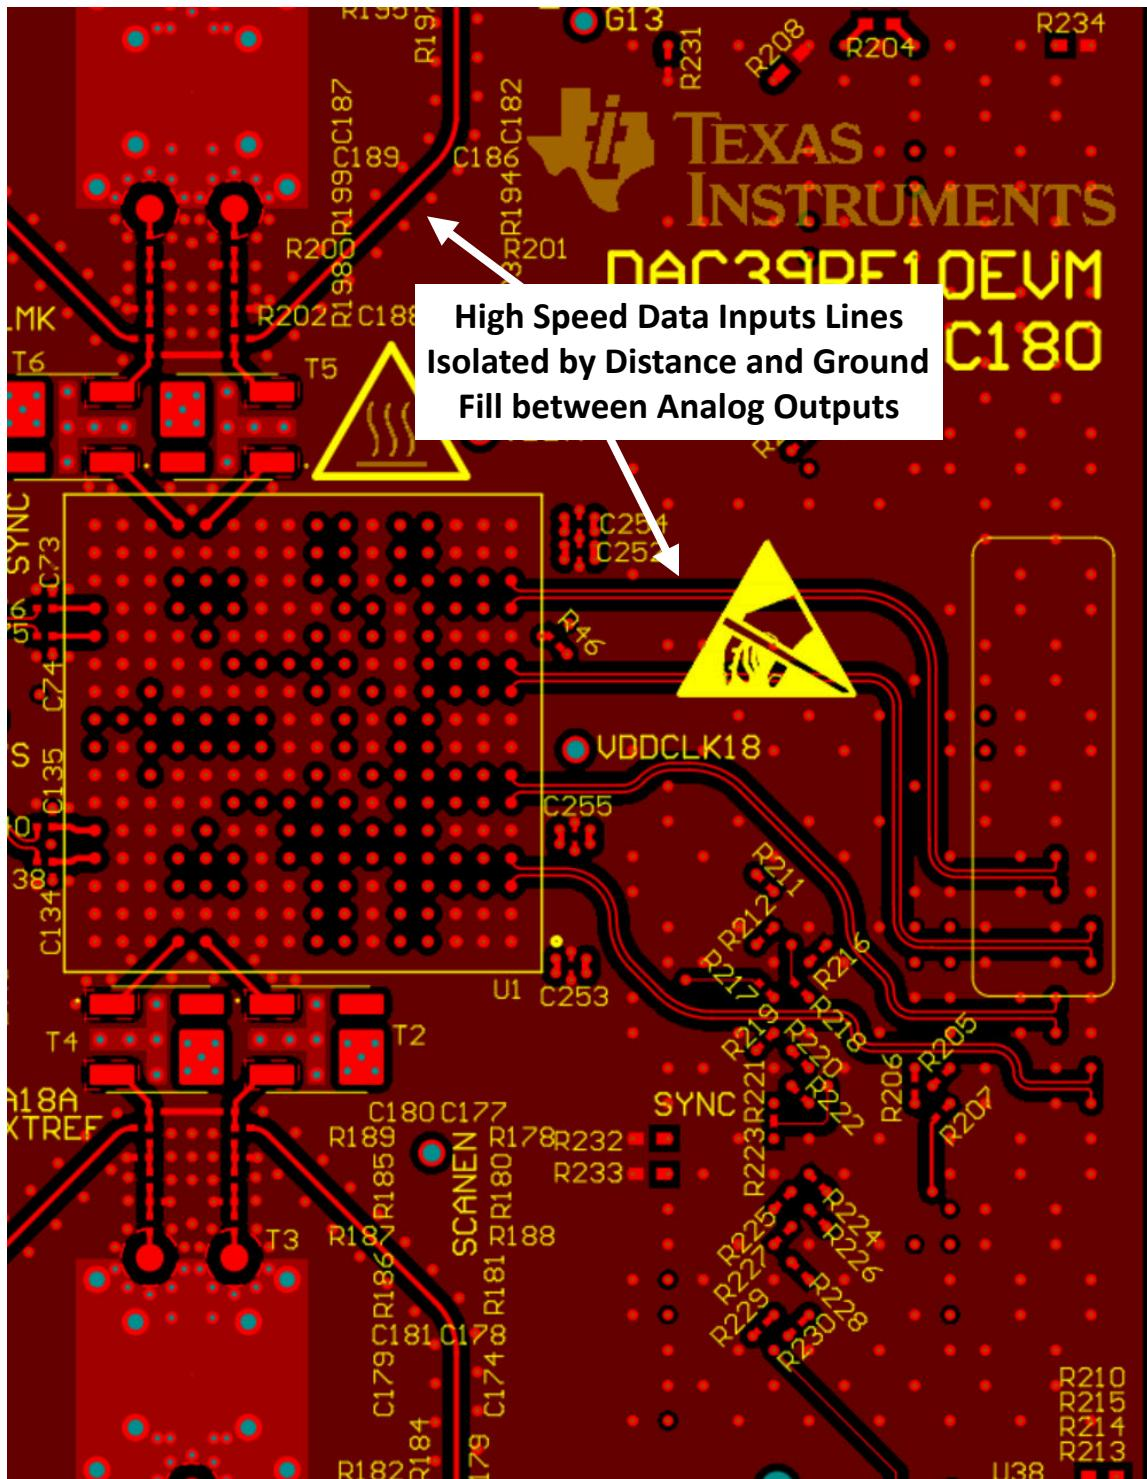

Figure 8-28. Serdes Top Layer Routing with Ground Fill Isolation
9. Pay particular attention to potential coupling between JESD204x data input routing and the analog output routing. Switching noise from the JESD204x inputs can couple into the analog output traces and show up as wideband noise due to the high bandwidth of the DAC. Route the Serdes JESD204x data inputs on a separate layer, if possible, from the DAC output traces to avoid noise coupling, see Figure 8-28 and Figure 8-29 as examples.